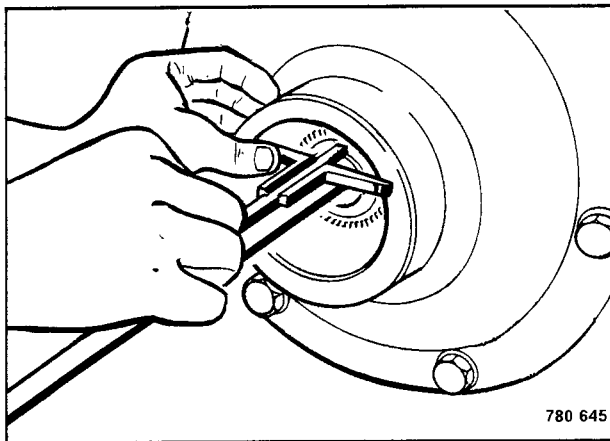

Fig. 11
3. Measure the distance from the coupling to the bearing housing (Fig. 11).